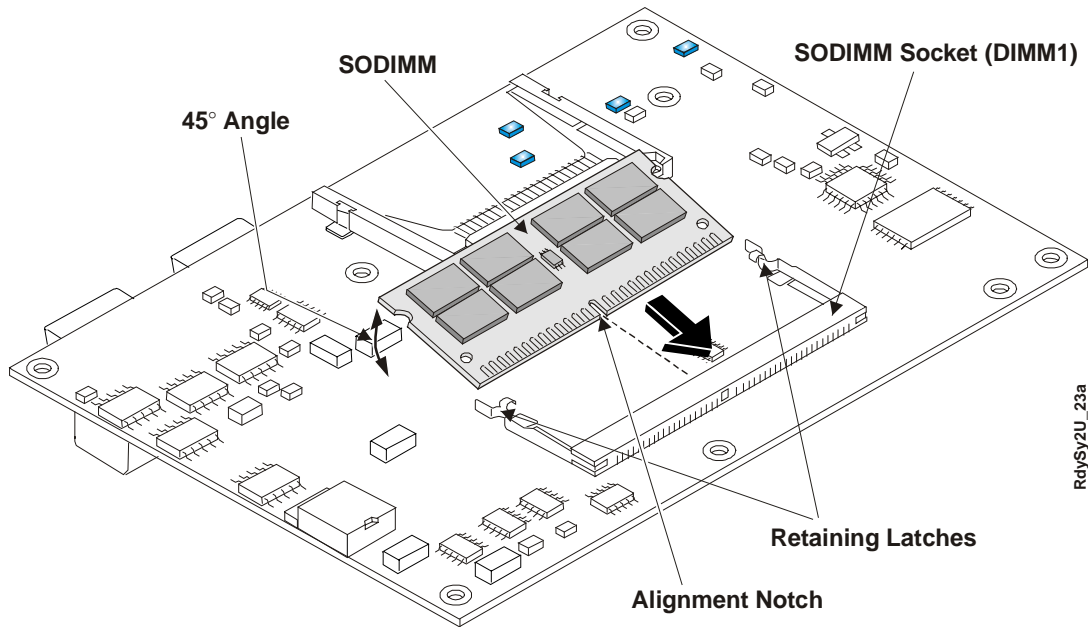

Figure 2-15. Installing SODIMM into Socket
7. Turn over the ReadyBoard model for access to the bottom of the board while laying on a flat anti-static surface. See Figure 2-15.
11. Insert the SODIMM into the socket at a 45° angle to the bottom of the ReadyBoard with the components facing up. See Figure 2-15.
12. Press the edges of the SODIMM down between the latches, until the latches snap into place. See Figure 2-15.